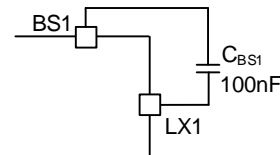

Figure5. External Bootstrap Capacitor Connection
The SY21612B provides a function for VBUS output current limit by sensing the voltage drop between VBUS pin and ISEN pin (as shown in figure5). Once the voltage difference ($V_{VBUS} - V_{ISEN}$) exceeds the voltage threshold, which can be configured by register 0x02[7:5], the internal control loop will regulate the output current by decreasing duty cycle until UVP or OTP is triggered. Noticing that the effects of R_{PIN} and R_{WIRE} cannot be ignored, the actual limit current I_{LIMIT} can be calculated as given in Equation (2):